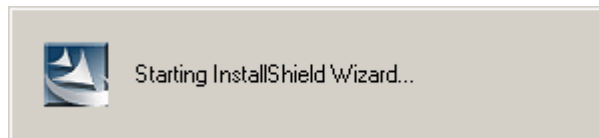

Figure 6-18: The InstallShield Wizard Starts
Step 4: The **InstallShield Wizard** starts (**Figure 6-18**).